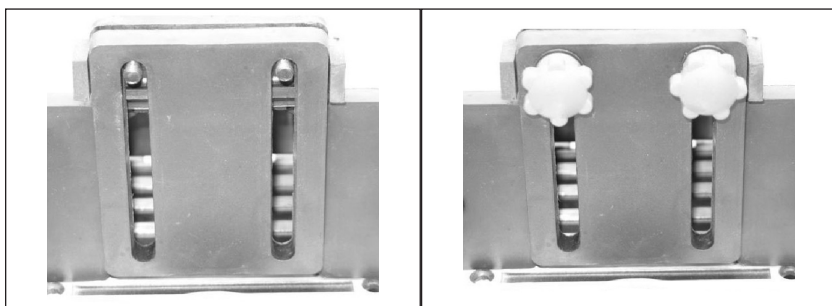

Fig.8 Fig.9
- Slide the two front fence, in order to have enough space for fence pressure pad, then put fence pressure pad on the two bolts, and secure it in position with washer and locking knob (Fig. 8 and Fig. 9).